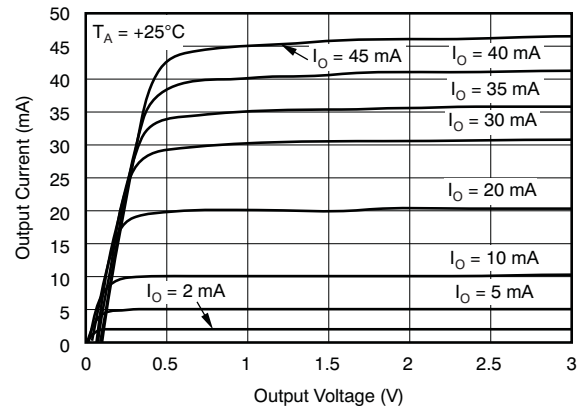

Figure 11.
- Deleted Figure 11, *POWER DISSIPATION RATE vs FREE-AIR TEMPERATURE* 11